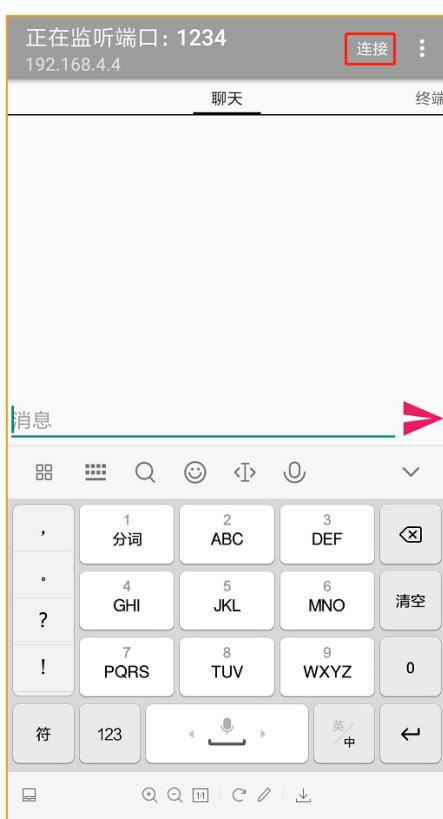
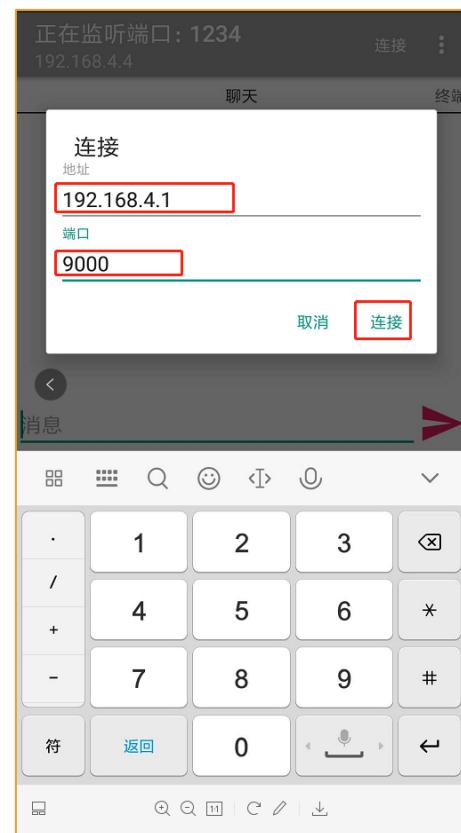

Figure 4-9-3
Figure 4-9-4
- 6) Open the test app, as shown in Figure 4-9-3. Click on the connection, click on the connection as shown in Figure 4-9-4, enter "192.168.4.1" in the address bar and then enter "9000" in the port field. Just connect the point. We only test whether the Wifi module can send and receive data normally. Click to enter the Figure 4-9-5, we click on the "red box" to enter the data you want to send, click "blue box" after the input is complete, the data will be sent out, as shown in Figure 4-9-6 Show.